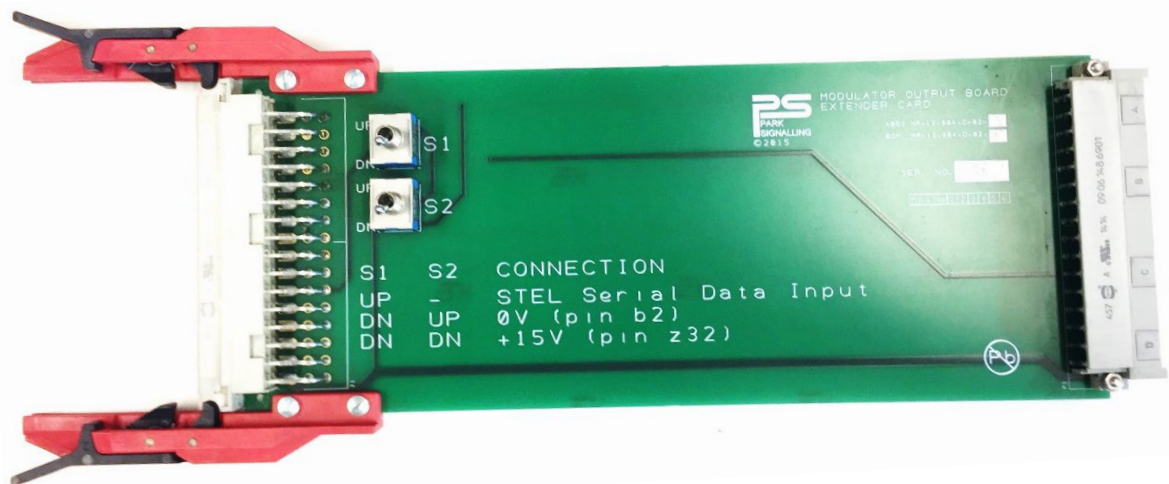

Figure 1 - Modulator/Output board extender card
- Modulator/Output board extender card. (See Figure 1).